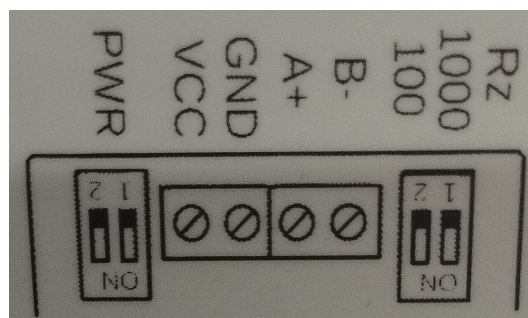

Figure 9: Diagram of connecting RS-485 bus wires to the NB-R4-V module terminal block
- loosen the screws on the terminal block for connecting the bus cable, feed the bus cable through the grommet in the module lid and connect the bus cable wires (*) to the corresponding terminals of the terminal block according to the label on the top side of the box lid (see figure 9);